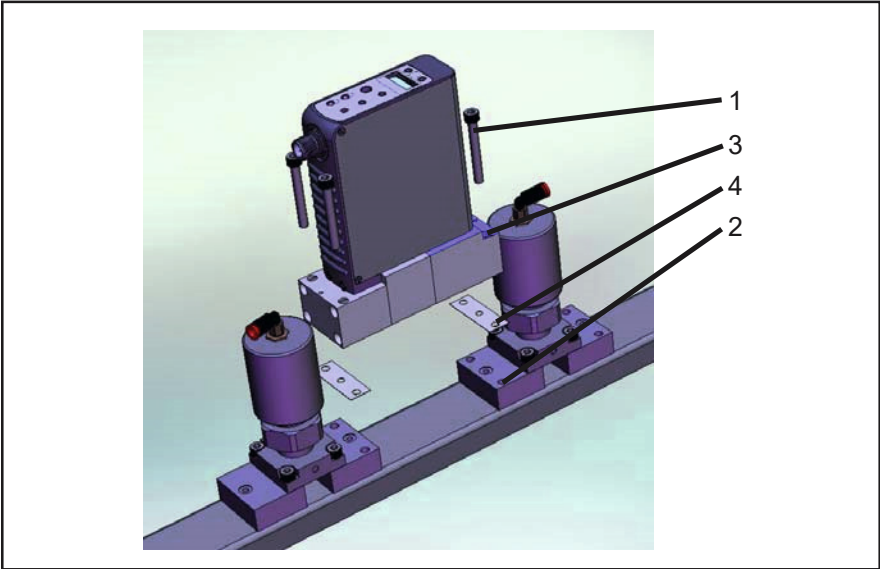

Figure 2-5 GF100 Series Mounted to K1 Series Substrate Blocks
1. Refer to Figure 2-5. If downported fittings (1) are used, the GF100/GF120xHT/GF101 Series is mounted to K1 Series substrate blocks (2) with four screws (3). Metal C-seals or W-seals (4) (as provided by integrator) are inserted between the GF100/GF120xHT/GF101 Series and substrate blocks before the screws are installed. These metal seals must be replaced after each installation.
3. Refer to Figure 2-5. Insert the two mounting seals (4) over the gas flow path of the K1 block. Carefully align the GF100/GF120xHT/GF101 Series mounting holes onto the K1 substrate blocks. Using your fingers, install the screws through the GF100/GF120xHT/GF101 Series fitting and hand tighten.